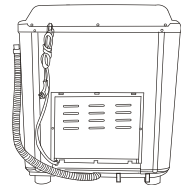

Figure 6
- Take out the drain hose from the fixing hook. Extend it from the rear side (When the drain hose is extended from the rear side, it can be hung on the point for drain hose at the two sides of the cabinet.) (See to Figure 6).